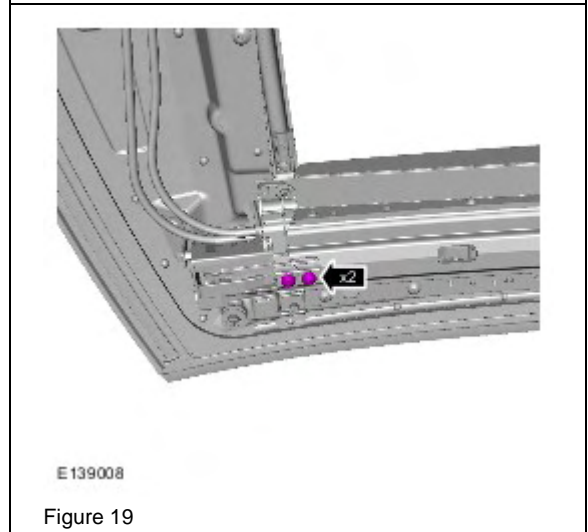

Figure 19
24. Tighten the two Torx bolts to 6 Nm. (Figure 19)